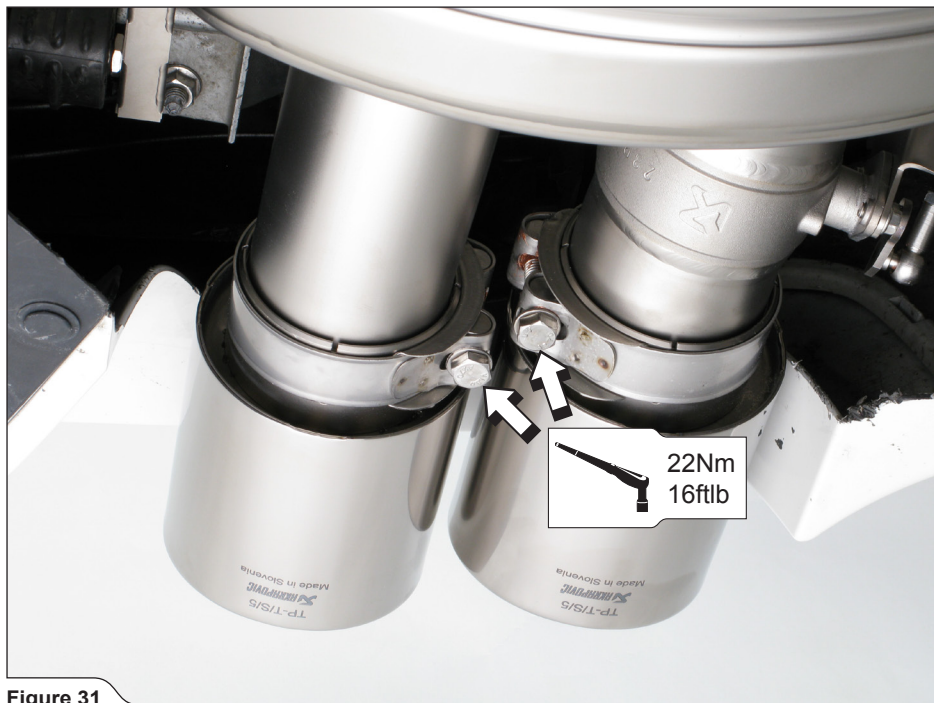

Figure 31
14. Tighten tail pipe clamps to the specified torque on both sides of the vehicle (**Figure 31**).